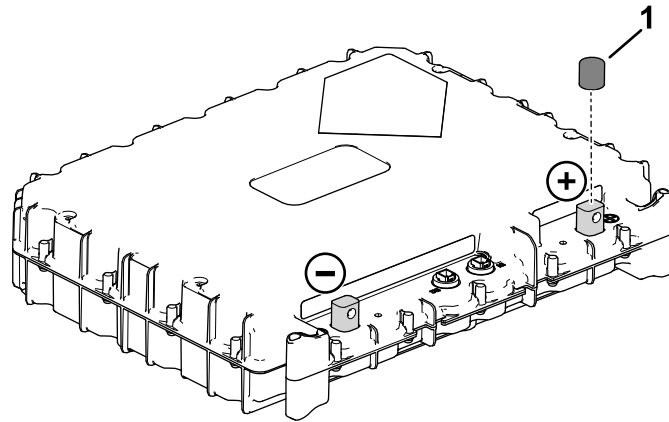

Figure 17
1. Remove the cap (Figure 17) from the positive terminals of the remaining 2 batteries.